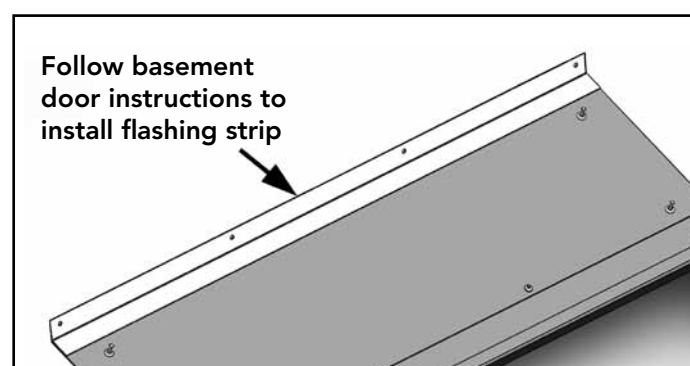

Figure 6
6. Install the flashing strip as shown in Figure 6 by following the instructions supplied with the basement door.